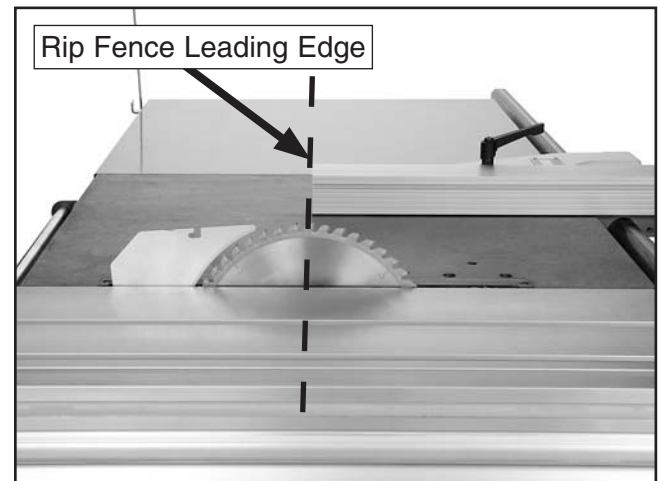

Figure 66. Rip fence even with center of blade (blade guard removed for clarity).
4. Slide the leading end of the rip fence so it is even with the center of the main saw blade as shown in **Figure 66**. Do not slide the rip fence farther than this or binding may occur, causing kickback.